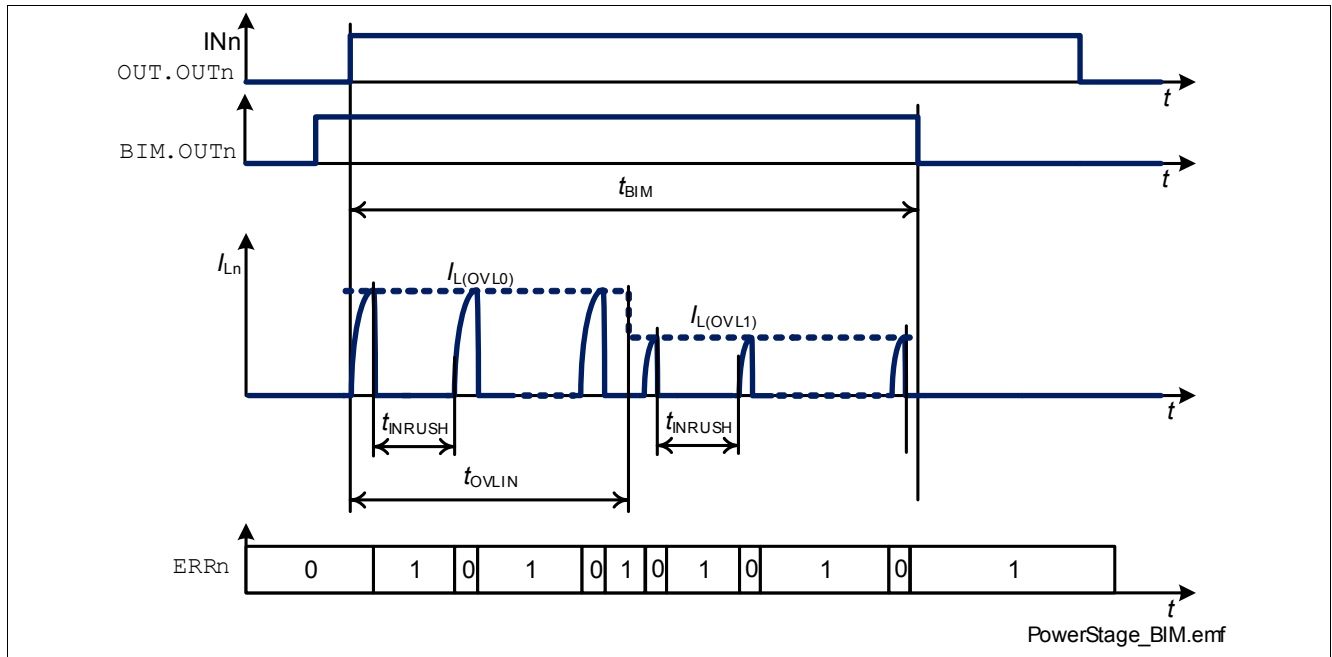
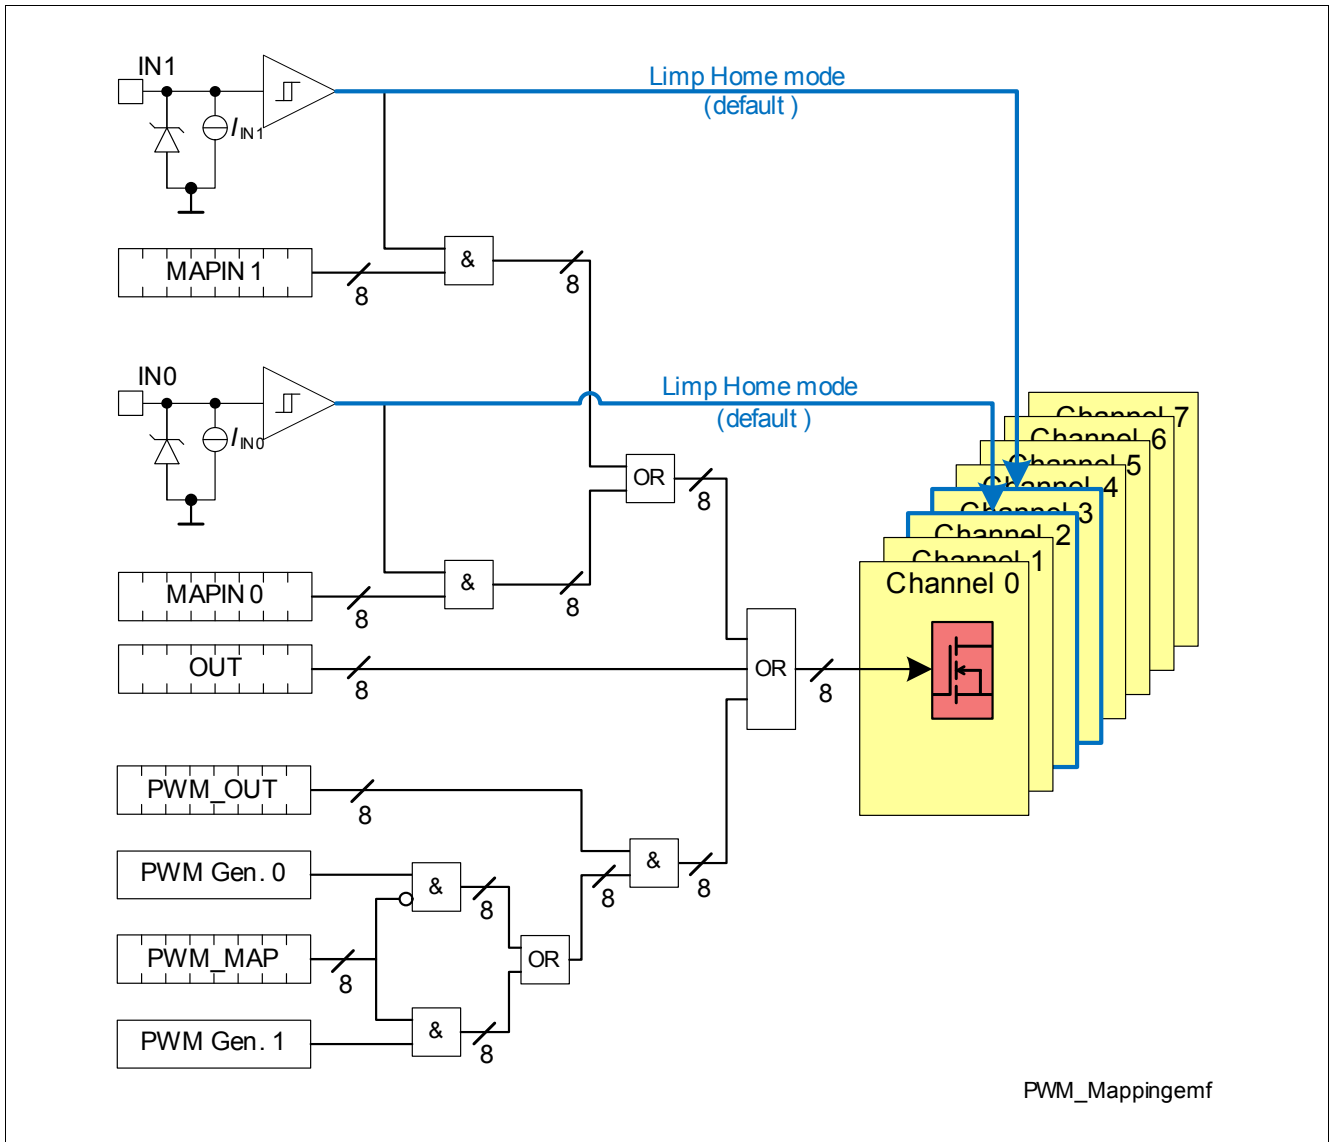

Figure 20 Bulb Inrush Mode (BIM) operation
Figure 21 PWM Generator Mappings
If the corresponding bit **BIM.OUTn** is set to “1”, in case the channel reaches the overload current threshold or the overtemperature threshold and latches OFF, it restarts automatically after a time  $t_{INRUSH}$ , allowing the load to go out of the inrush phase. A time diagram is shown in Figure 20. As shown, the counter starts when the channel is switched ON. Every channel switch OFF (independently from the entity controlling the channel - see Figure 21 for further details) resets the bit **BIM.OUTn** to “0”.
**Figure 21** expands the concept shown in **Figure 10** adding the PWM Generators.